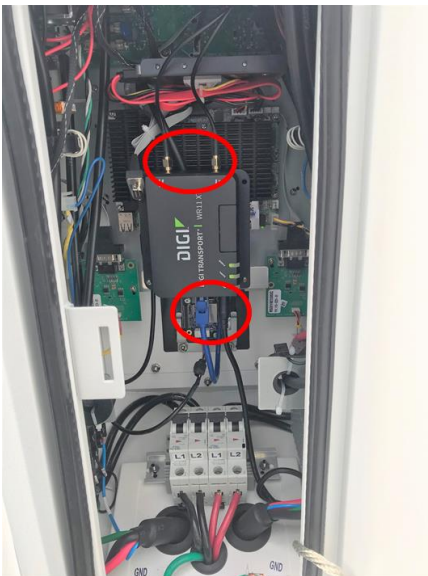

Figure 1.1
- 1.1. Disconnect the antennas, power cord, and Ethernet cable from the cellular modem as shown in **Figure 1.1**.